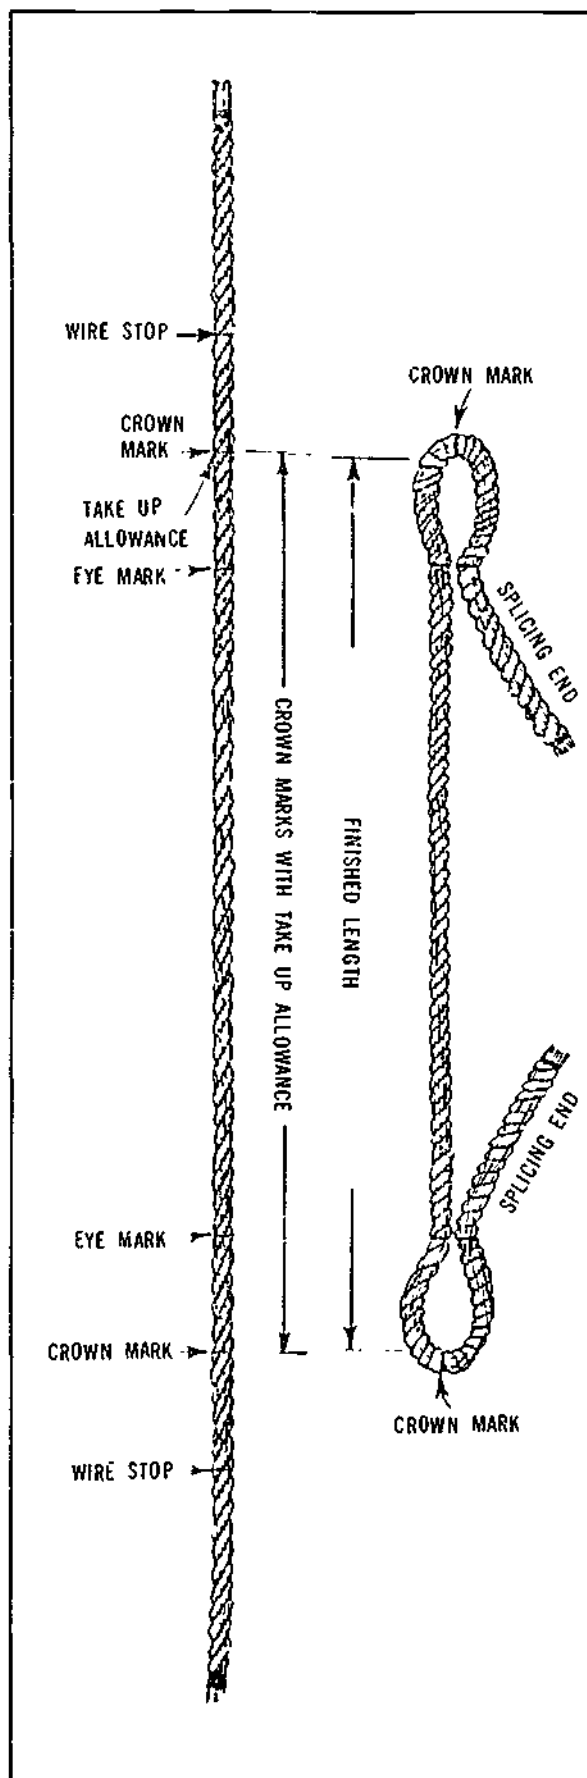

Figure 7-78. Making a Choker
**Procedure** (See Figure 7-78).